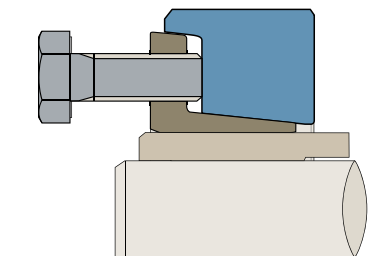

Figure 2
(Refer to Figure 2)
1. Loosen all locking screws in several stages by using approx. 1/2 (i.e., 180°) turns, following either a clockwise or counterclockwise sequence, until Shrink Disc can be moved on hub. If the shrink disc does not release, transfer the appropriate number of screws into the threaded backoff holes in the outer ring (Figure 2). Evenly and progressively tighten these screws, in either a clockwise or counter clockwise sequence, until outer ring releases. The shrink disc, hub and shaft will return to their original clearance fits.